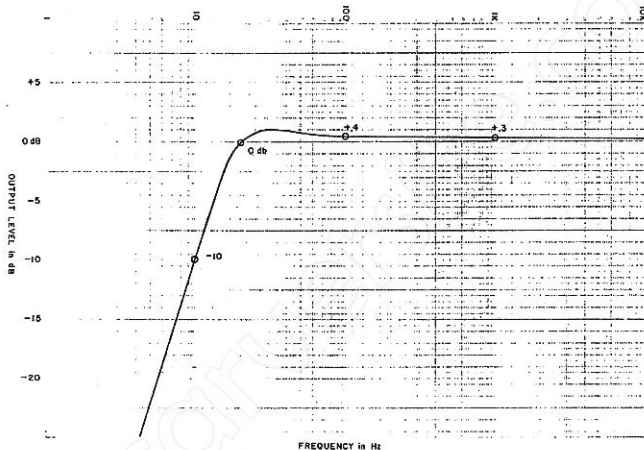

Figure 6-1. Infrasonic Filter Response
- C) Referring to Figure 6-1 and Table 6-1 below, verify FREQUENCY RESPONSE at each of the circled test points. Acceptable tolerance is ± 0.5 dB. Table 1 lists the acceptable ranges.